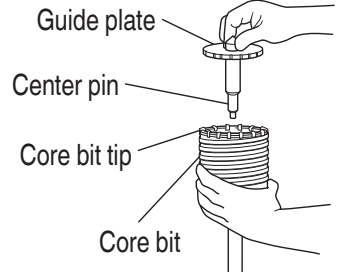

Fig. 20
- (3) Insert the center pin into the guide plate until it stops.
- (4) Engage the guide plate with the core bit, and turn the guide plate to the left or the right so that it does not fall even if it faces downward (Fig. 20).